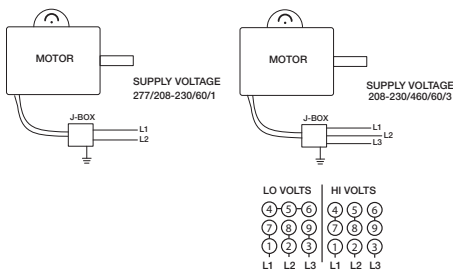

Figure 5 — Typical Wiring Diagram
- Where plug is not provided, connect power in accordance with the NEC and all local codes. Refer to Figure 5 for the wiring diagrams.